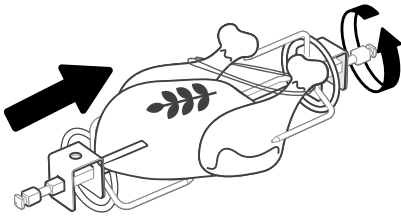

Figure 1.7
2. Place the rotisserie forks on either side of the shaft and insert them into the food item to secure it on the shaft. Tighten the knobs on the forks to secure them. [Figure 1.7]